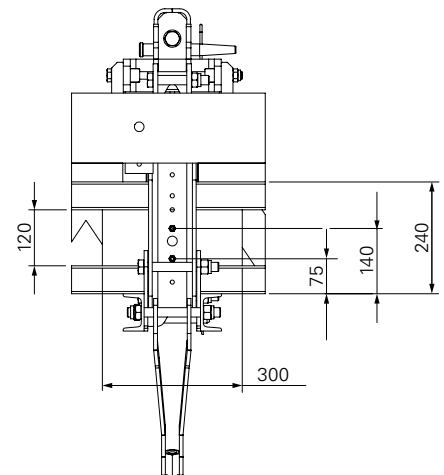

Fig. B1.10b
8. Position 2 lattice girders on the opposite side of the carriage (**2.11**) and pre-drill with  $\varnothing 8$  mm, laterally spaced at distance c and below with 65 and 140 mm spacings. (Fig. B1.10b)